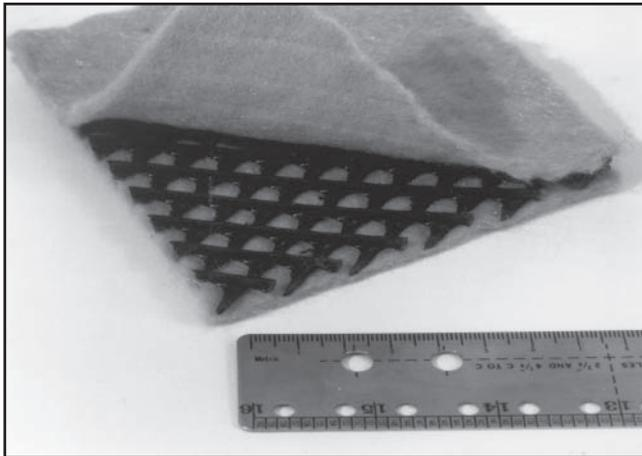

Figure 34—The net-like core of geonet allows drainage.
**Geonets or geonet composites** (Figure 34) have a thin polyethylene drainage core that is covered on both sides with geotextile. They are used for all three functions—separation, reinforcement, and drainage. Since geonets have a core plus two layers of geotextile, they provide more reinforcement than a single layer of geotextile.